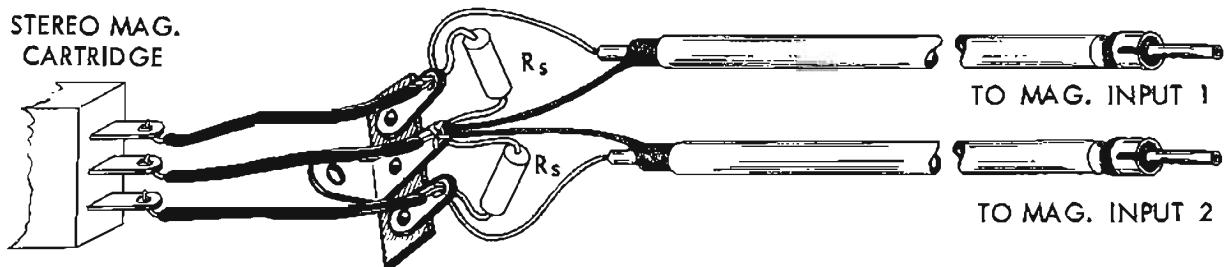

FIG. 3
1) MAG. PHONO 1, MAG. PHONO 2: These inputs are intended for the two outputs of a stereo magnetic cartridge, or for a stereo ceramic cartridge with adaptors. The correct method for wiring a three terminal cartridge is shown in Fig. 3. If the cartridge is a four terminal type, short the two inside terminals of the cartridge together and treat it exactly as if it were the single center terminal shown in Fig. 3. The loading presented to each output of the cartridge by each MAG. PHONO input is 100,000 ohms. If a lower loading resistance is required by the particular cartridge used, connect a shunt resistor of appropriate value from each outside terminal of the cartridge to the center (common) terminal. This can be done actually by mounting a 3-post terminal strip on the underside of the phonograph mounting board at a point near the lead break-out from the pickup arm. These shunt resistors are then wired to this terminal strip as shown in Fig. 3. The value of each of the two shunt resistors ( $R_s$ ) can be determined from the desired loading resistance ( $R_l$ ) by this formula